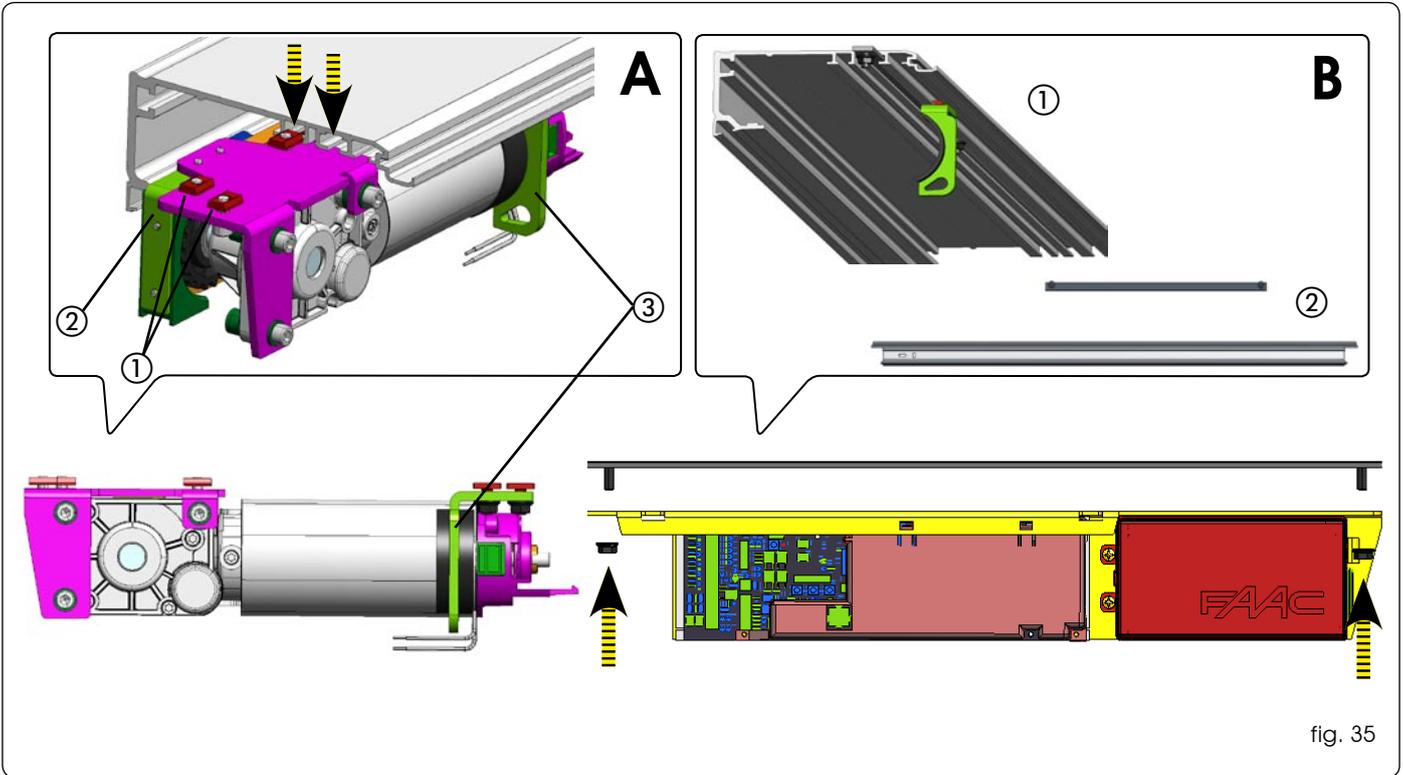

fig. 35
Then insert the electronics module and secure it using the two rod bolts. (fig.35 B ① ②)
Insert 3 small plates sideways of the profile and secure the motor with the 3 screws to the support profile (fig.35 A ①).
Once the motor is fixed, place the motor ring on the motor edge, as shown in figure (fig.35 A ③)
On the motor bracket there is a gauge with a belt lift-proof function (fig.35 A ②)